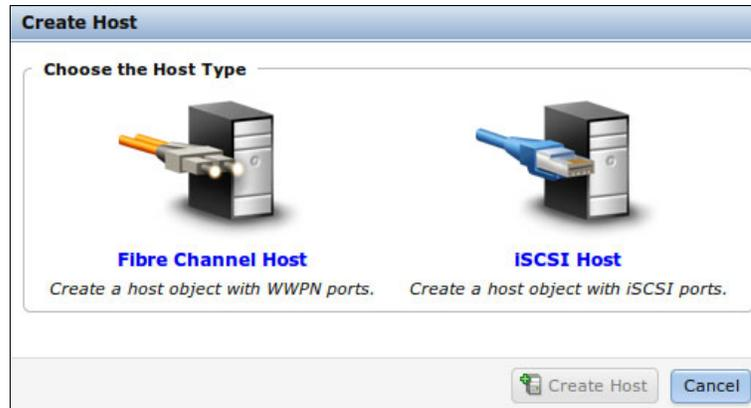

Figure 10-89 Create Host pane
8. In the Create Host pane (Figure 10-89), select **Fibre Channel Host** for FC/FCoE. The pane refreshes.